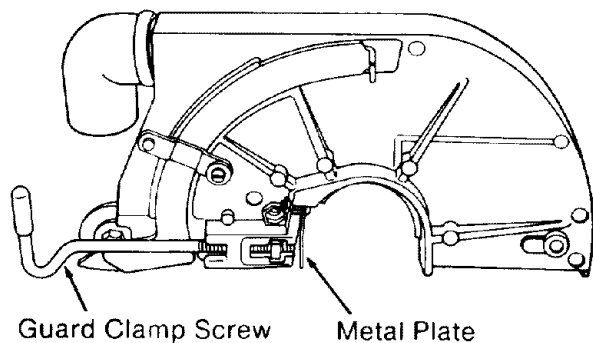

Fig. 97
1. Loosen the *guard clamp screw* until it no longer touches the *metal plate*. (Figure 97)